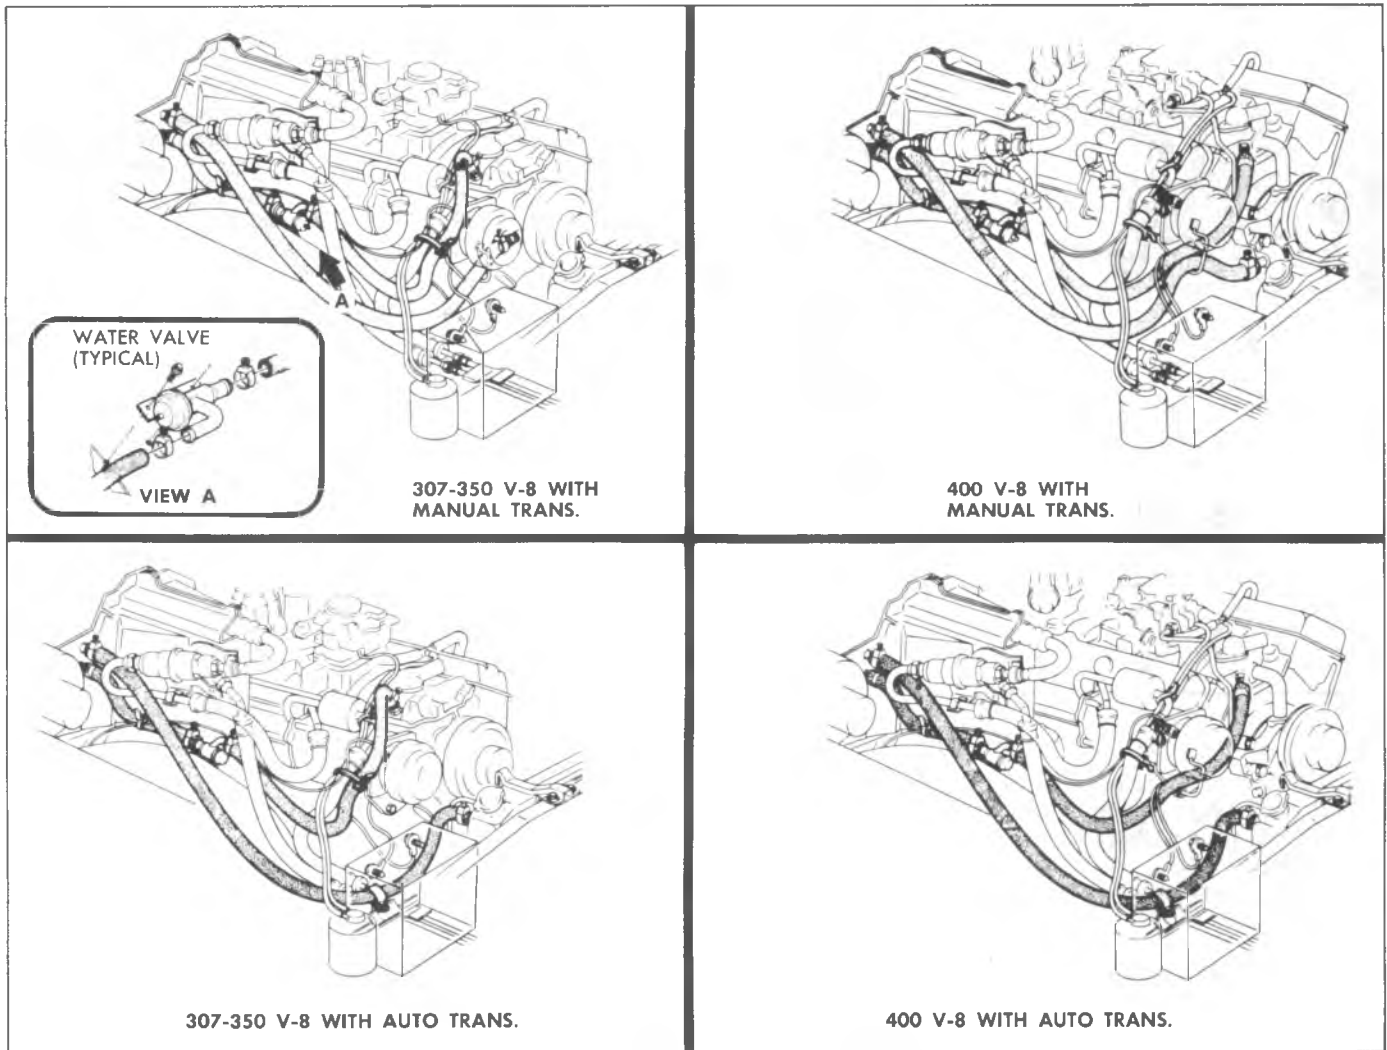

Fig. 38—A/C and Heater Hose Routing—Typical
5. Connect the heater hoses to the core tubes (fig. 38).
WATER VALVE (Fig. 38)**Removal**